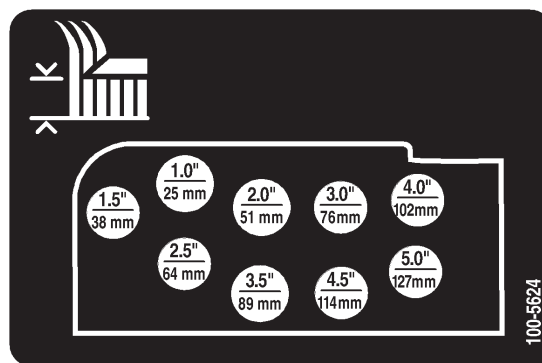

Figure 13
- Mount the height-of-cut chains to the desired height-of-cut hole (Fig. 13) with the clevis pin and hairpin cotter.